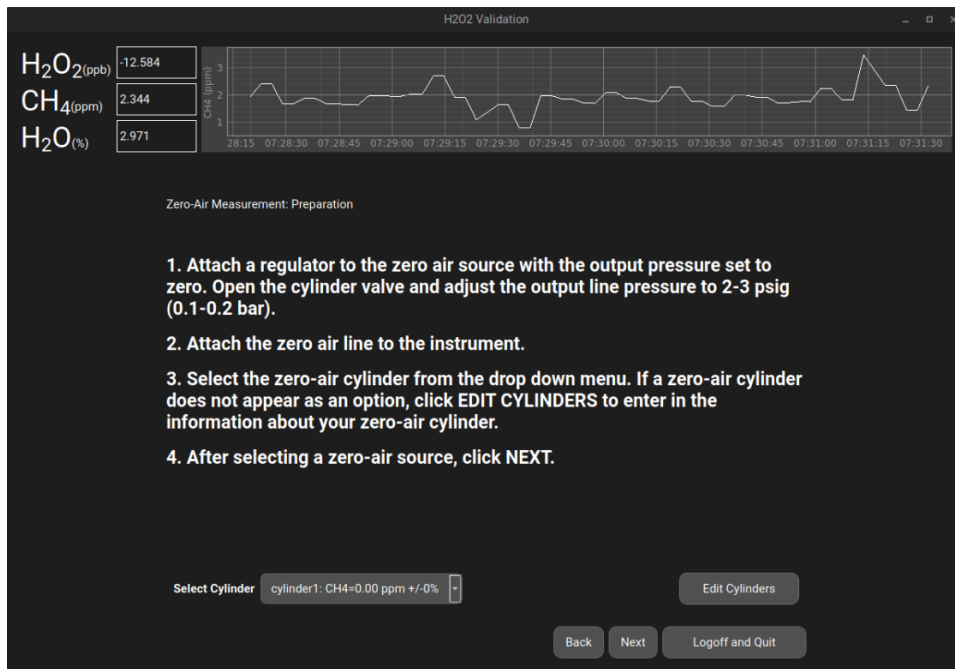

Figure 52 - Zero Air Measurement Preparation
- Once the cylinders are set up, click **Exit** to continue to Figure 52 - Zero Air Measurement Preparation.